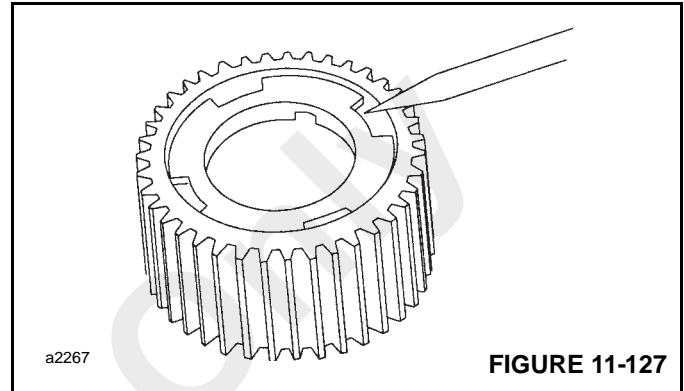

FIGURE 11-127
1. Press a sprag bushing into the outer race, using a suitable press. A flat plate of approximately the same diameter as the bushing flange outside diameter should be placed between the press and bushing. This will protect the bushing from damage. Be certain the bushing flange is against the shoulder in the outer race (Figure 11-127).